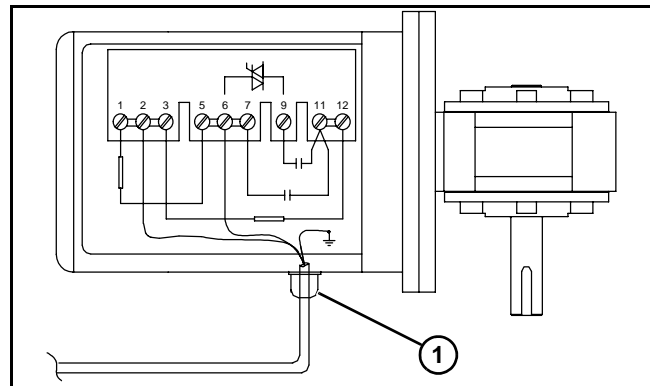

Figure 28
- b. Record wire colors on terminals 2, 6 and ground (Figure 28). Loosen terminals 2, 6 and ground and remove wires.
- c. Loosen cord grip (Figure 28, item 1) and remove cord.